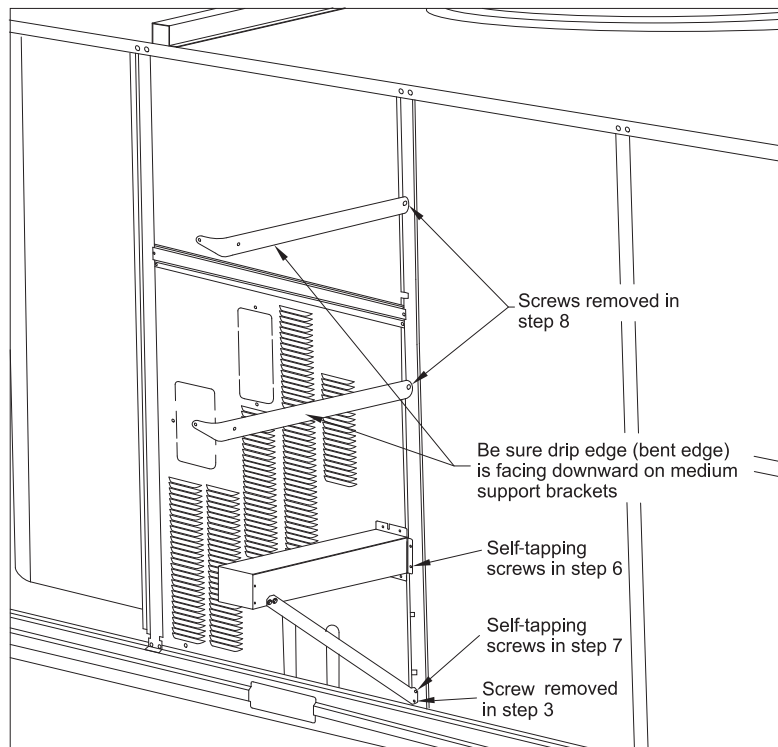

Fig. 2 — Flue Extension and Support Brackets Attached to Unit
3. Remove first screw from bottom left of center post on unit. See Fig. 2. Save screw for later use.
6. Secure flue extension through clearance holes in flange with 8 self-tapping screws provided. These screws are in addition to the screws secured in Step 4. See Fig. 2.
7. Secure short flue extension support bracket to center post with 1 self-tapping screw provided. This screw is in addition to the screw secured in Step 5. See Fig. 2.
8. From top of center post, remove second and fourth screws. Save screws to use in next step. See Fig. 2.
NOTE: Be sure the drip edge (bent edge) is facing down. See Fig. 2.